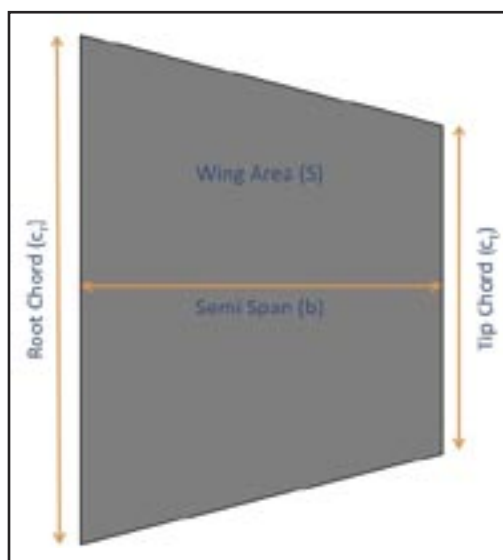

Figure 4. Fin Geometry
From Equation 1, the variables under the square root describing the geometry of the wing are the thickness of the wing (t), root chord (c), Aspect Ratio (AR) and the Taper Ratio (l). The equations for these variables are listed below, along with a wing geometry guide shown in Figure 4. All units should be in inches.